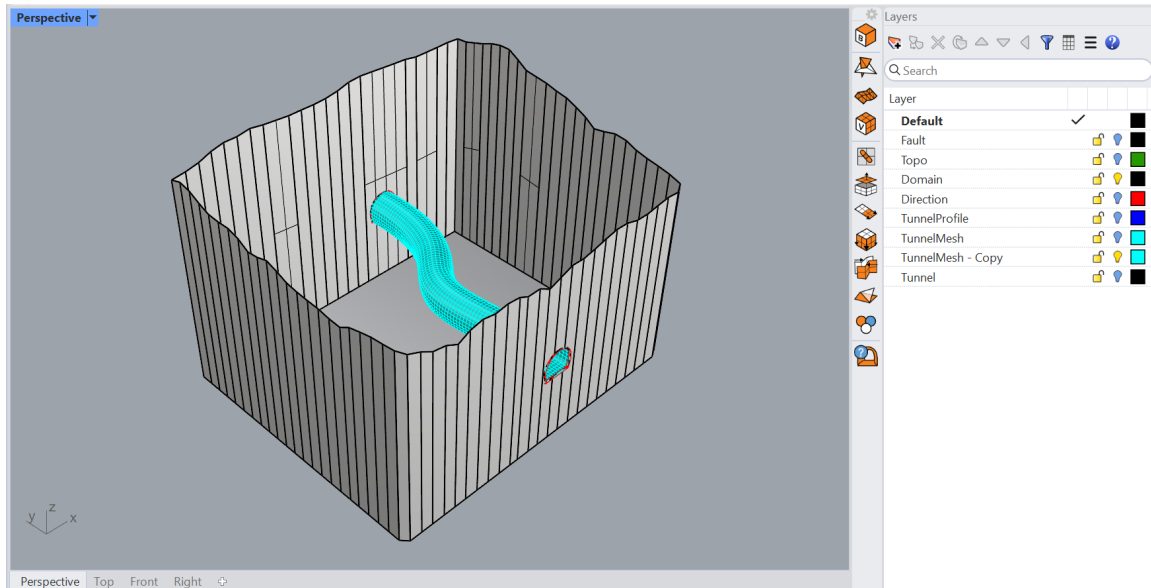

Figure 59: Removing parts of the domain at tunnel front and back.
33. Delete parts of the domain corresponding to the tunnel front and back to create openings for the tunnel (Figure 59). Do not delete the border curves, these will be used as a hard edge in following steps.